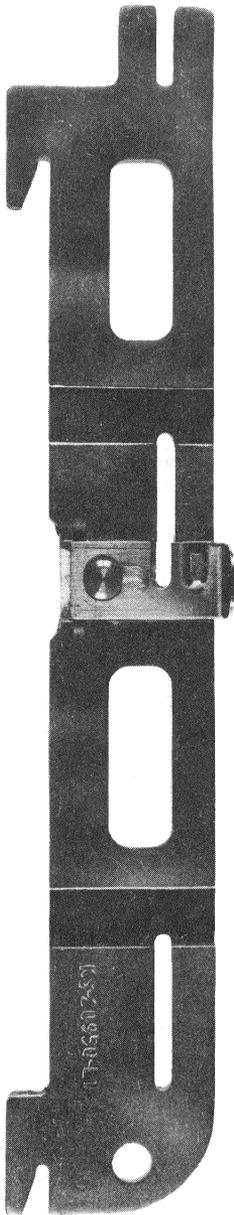

Fig. 1—KS-20950, List 2 Cover Parking Tool
- KS-20950, L2 cover parking tool (Fig. 1)—Used to hang cover unit assembly of 1-type set on side of housing, eliminating the need for a P11C cord
- (1) Remove cover unit assembly 1-type sets or open door and faceplate assembly of 2-type sets.
- (2) If P11C cord is used, invert handset on switchhook of 1-type sets to prevent armored cord pushing handset off-hook when cover unit assembly is set aside.
- (3) Where possible, install coin cover unit on a KS-20950, L2 cover parking tool (Fig. 1).
- (4) When testing 1C- or 2C-type sets, ensure that totalizer CF-DTF mode switch, is in the proper position.